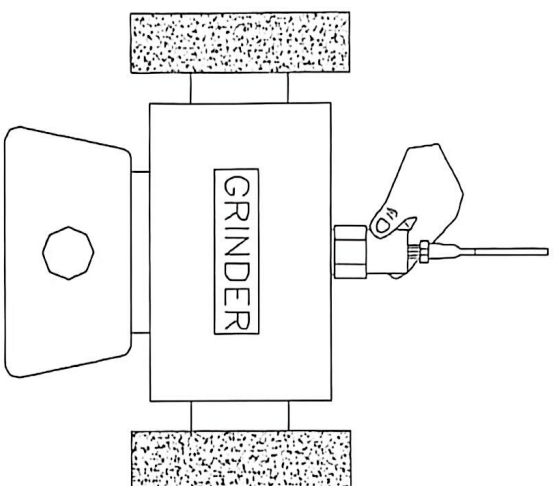

Fig. 2
- 6) If the surface material of measuring article is not the ferrous material, hold the vibration sensor by hand & touch the sensor to the surface of the measuring article, refer the Fig. 2.